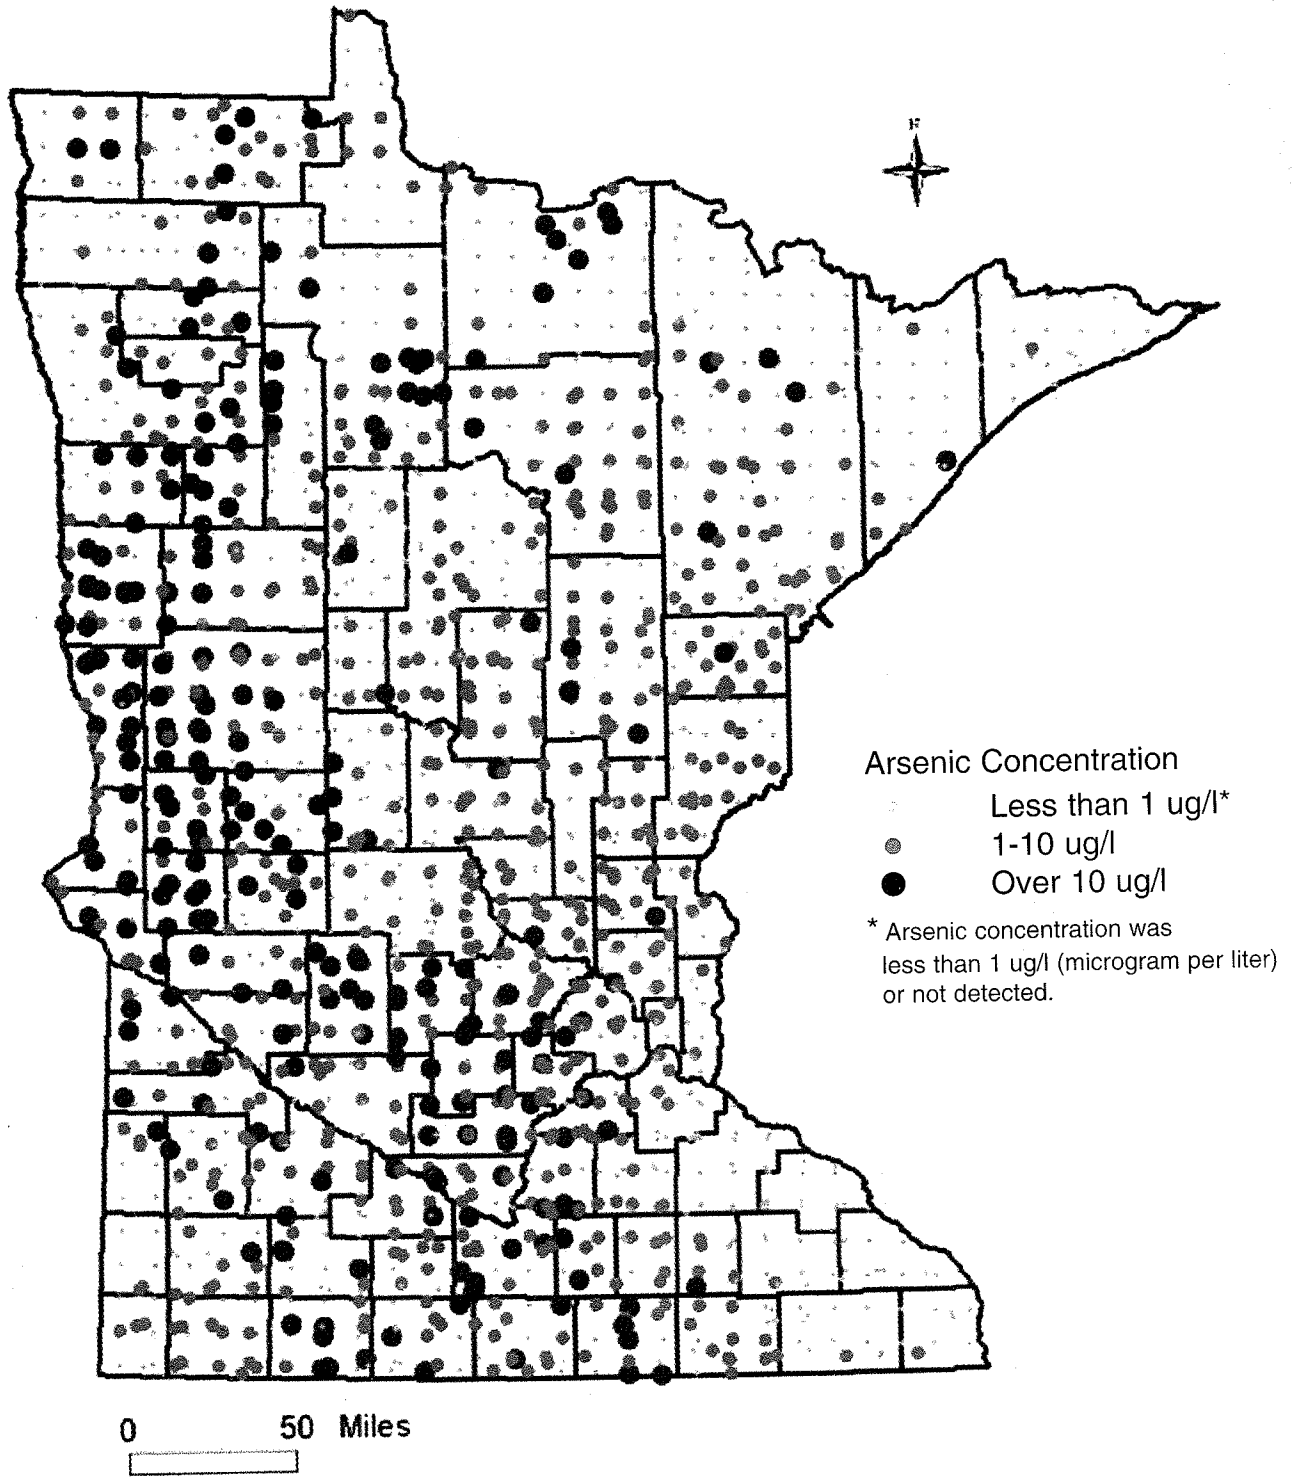

FIGURE 5 Arsenic concentration reported for selected wells in Minnesota.
**Arsenic** occurs naturally in the groundwater in many parts of Minnesota, and about 15 percent of wells produce water which exceeds 10 micrograms per liter ( $\mu\text{g/l}$ ),\* the federal drinking water standard. Arsenic is more prevalent in western Minnesota, but can occur almost anywhere in the state (see Figure 5, the map on arsenic occurrence on page 22). Long-term consumption of arsenic above the drinking water standard may increase the risk of health problems of the skin, circulatory system, or the nervous system, including some cancers. Every private well should be tested at least once or twice to determine if arsenic is present in the water, and at what levels. Arsenic levels in groundwater will not usually change much over time. Long-term consumption of well water with arsenic levels above 10 micrograms per liter should be avoided.